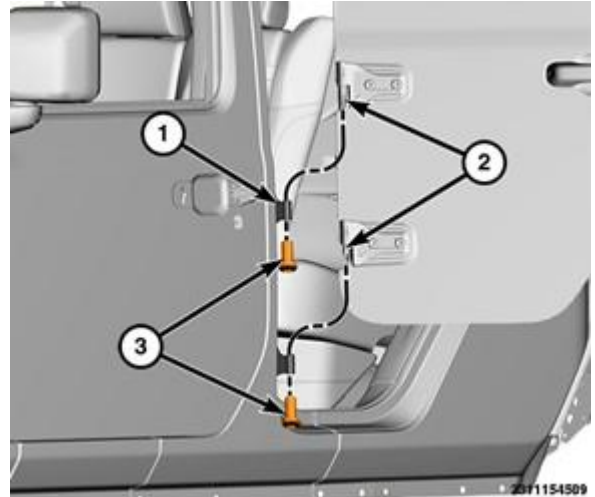

Figure 27 – Hinge Pin Nuts
- 23. Remove the nuts (3) and lift the door up off hinges (1) and remove (Figure 27).
46. Set the door into place on the hinges and install the door hinge pivot nuts. Tighten the nuts to 6N·m (53 in. lbs.) (Figure 27).